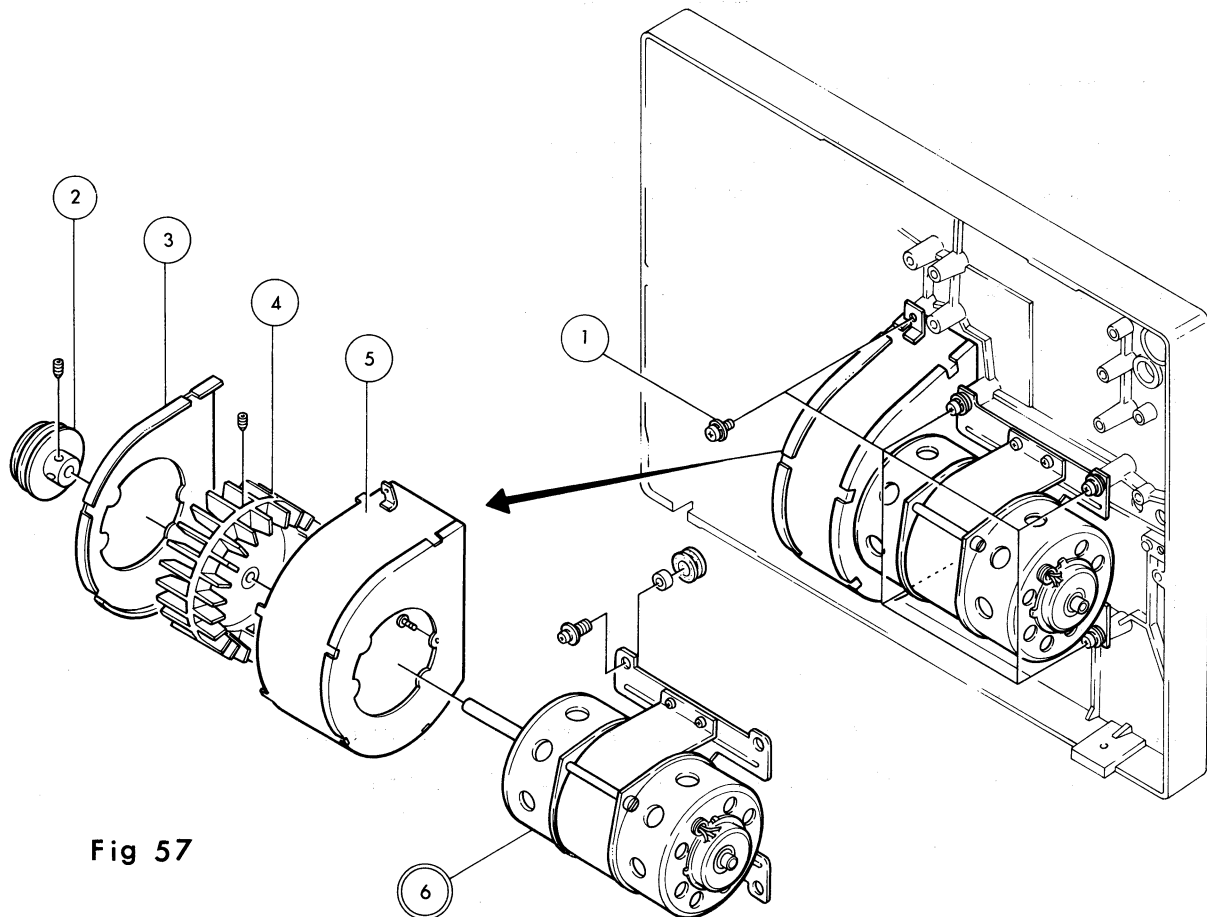

Fig 57
3. Unscrew (1)x5 in Fig.57 and remove ((6)).
4. For disassembly of the rest, refer to Fig.57.
- Defective (4); Motor roars.
- Wrong position of (4) — beating noise of (3)(5); Noise
- Wrong position of (2) — Drive belt III comes off.